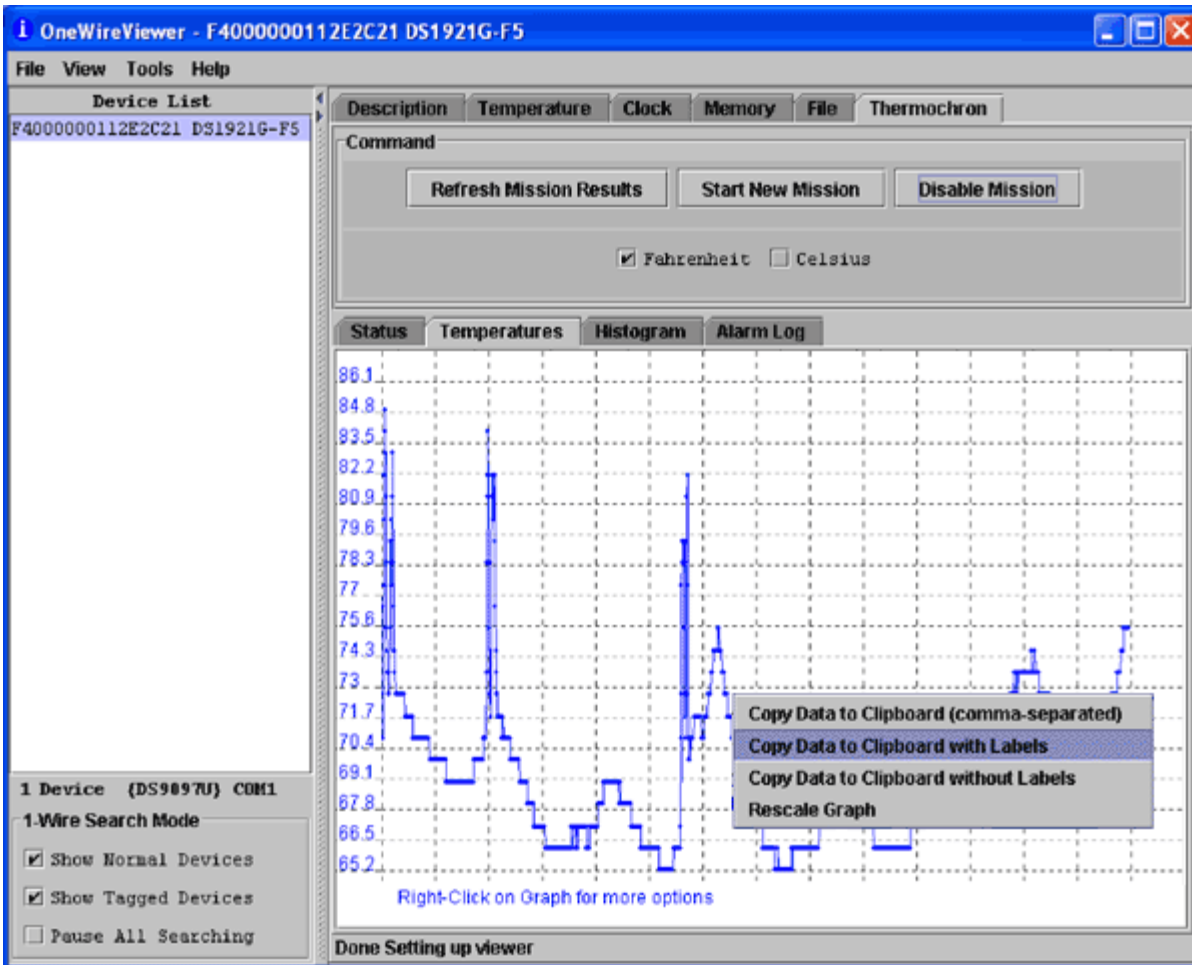

Figure 3. When you have your data graph, you can copy that data to the clipboard with a simple right click of the mouse.
9. Select the "Copy Data to Clipboard with Labels" line, and click on it (Figure 3) to save the data to the Clipboard.